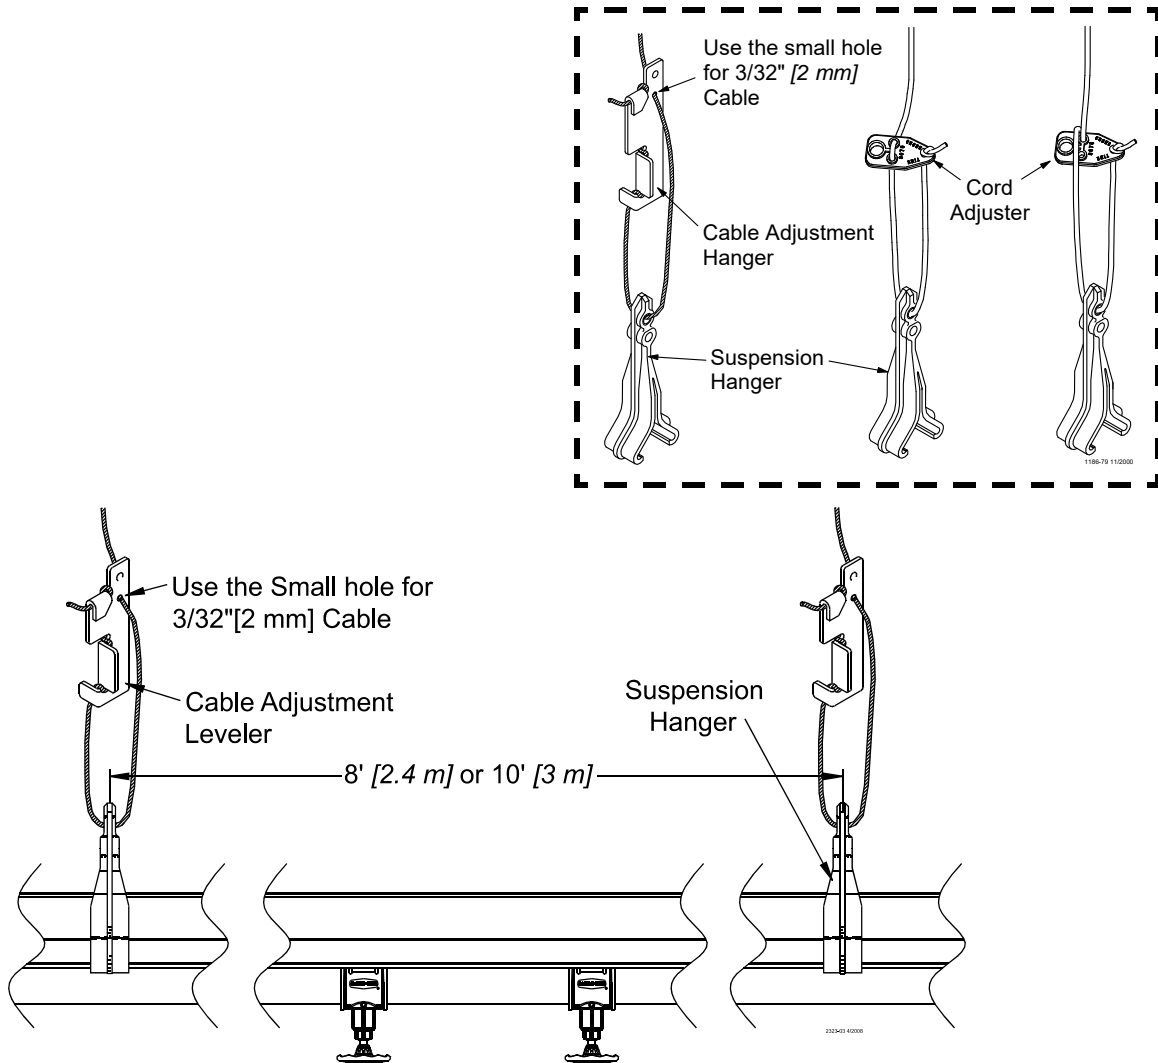

Figure 13. Suspend Water Lines
3. Route the suspension cable through the top hole of the suspension hanger and around the cable adjuster as shown in **Figure 13**.